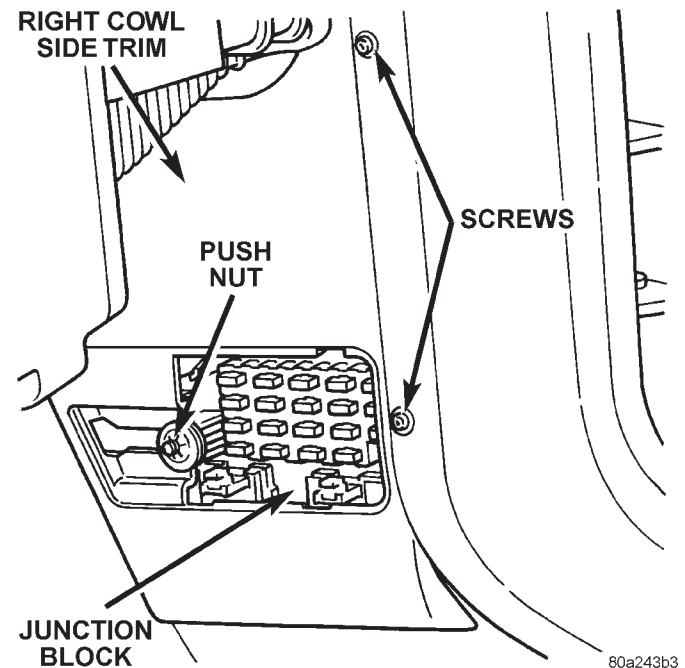

Fig. 5 Right Cowl Side Trim Panel Remove/Install
(1) Disconnect and isolate the battery negative cable.
(2) Remove the fuse access panel by unsnapping it from the right cowl side trim panel.
(3) Remove the push nut that secures the right cowl side trim panel to the junction block stud (Fig. 5).